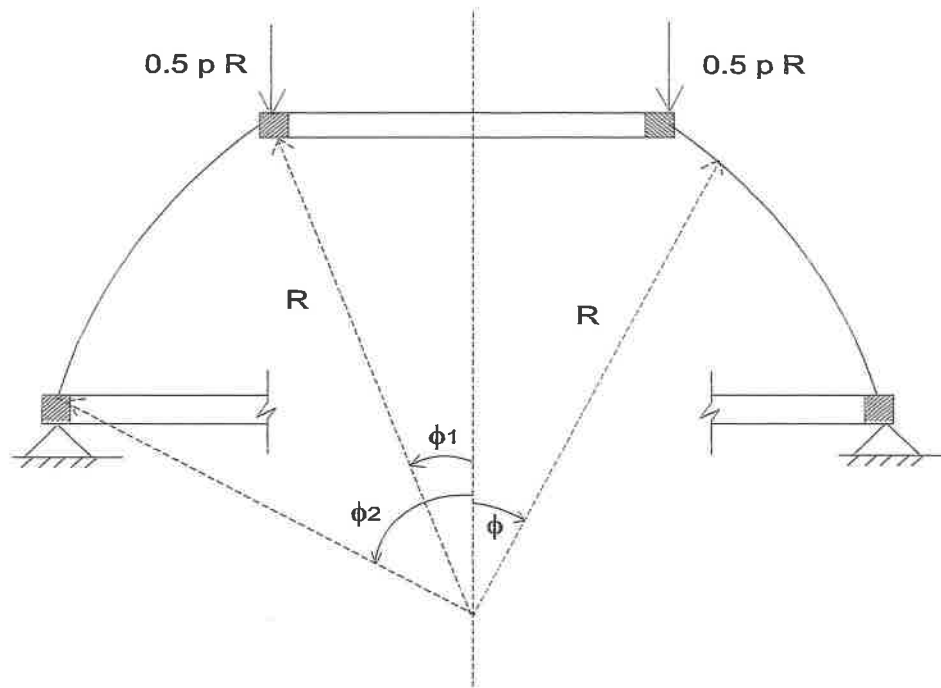

Figure Q3
- c) A spherical lantern shell stiffened by the upper ring and the lower ring is shown in Figure Q3. The shell structure is having radius of R and carrying a vertical line load of $0.5 pR$ per unit length and a designed live load of p per unit plan area.